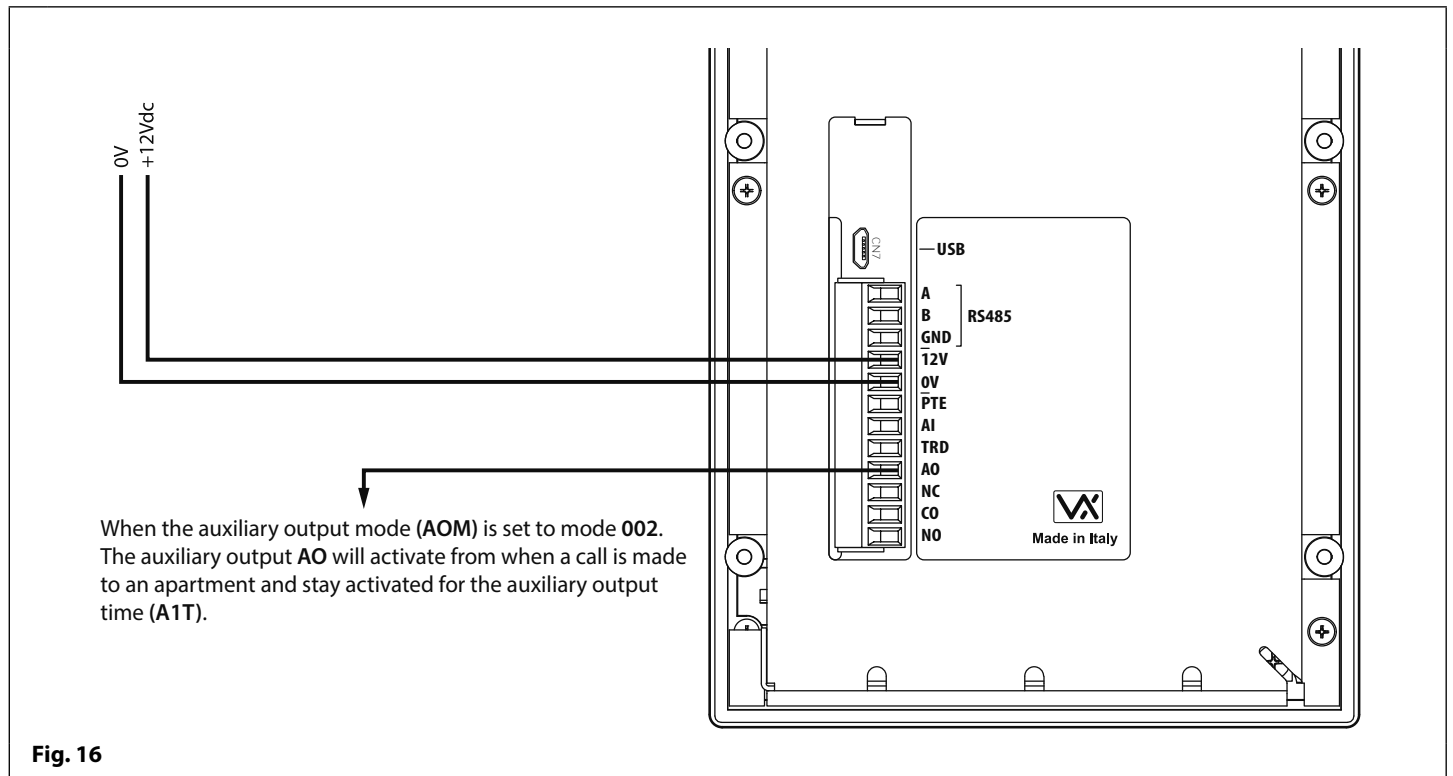

Fig. 16
**Fig.16** below shows the connection for auxiliary output AO when the AOM mode is set to 002. The auxiliary output AO will activate once a call to an apartment has been made and will stay activated for the programmed auxiliary output time A1T.